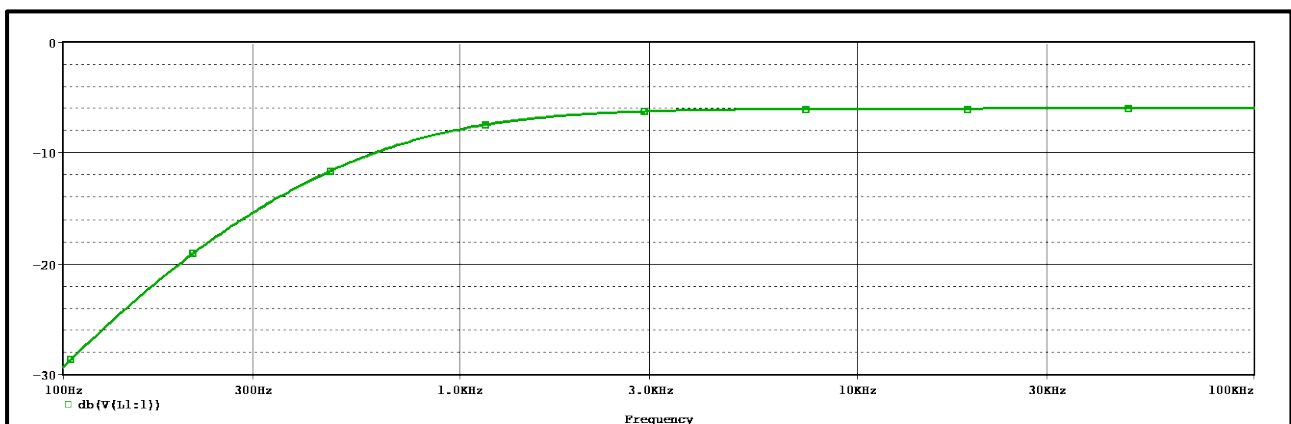

Figure 10.12
4. The output waveform will be similar to the figure 10.12.